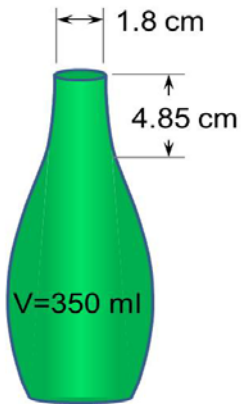

Fig. 1 Perrier Bottle
Analogous to an RLC circuit or a Single-Degree-Of-Freedom (SDOF) mass-spring-damper mechanical system, an acoustical network can also behave as a Helmholtz resonator. The acoustic compliance is typically a contained volume of compressible air. The acoustic mass is usually a slug of non-compressible air trapped in a tube or aperture. To demonstrate this with a physical example, we can model an empty Perrier bottle as a Helmholtz resonator (see Fig. 1). The volume can be found by filling the bottle up with water to just below the bottom of the neck and using a measuring cup or graduated cylinder. In MKS (SI) units, the compliance is calculated as